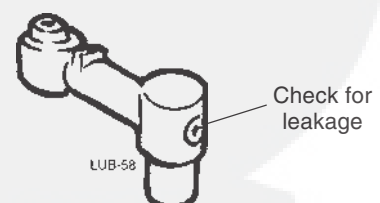

Figure 11.10 Plastic Elbow (488-695)
- **Saw models 488 through 695** draw oil through a plastic elbow installed beneath the oil pump in the engine crankcase. This elbow should be carefully inspected for possible blockage, and also for any signs of leakage from the sealing plug at the end of the elbow (Figure 11.10).